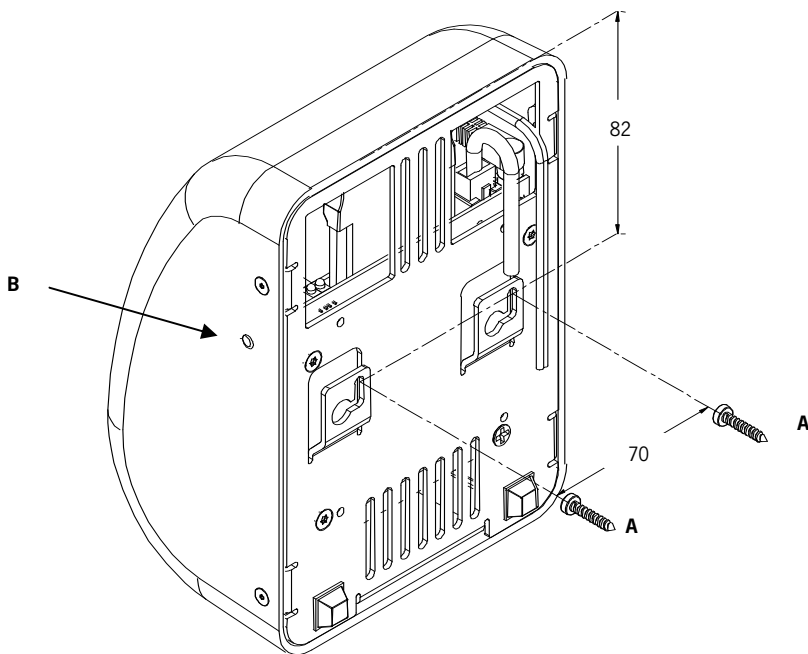

fig 3.1
3. Connect the power cable and the communication cable of the Shuttle (see figure 3.1 above).